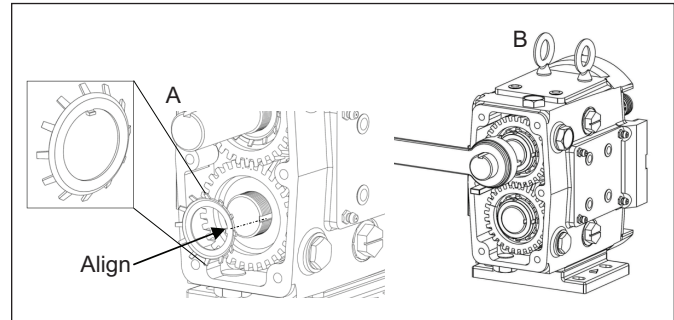

Figure 54. Installing Lock Washer and Lock Nut
9. Install the lock washers on the shaft by aligning the tab inside the lock washer with the slot in the shaft (Figure 54, A). Lubricate the threads of the lock nuts and thread them on the shafts. Using a spanner wrench, tighten them to the specified torque in Table 6. Use a wedge (wood or plastic) between the gear teeth to keep the shafts from turning while tightening the lock nuts (Figure 54, B).